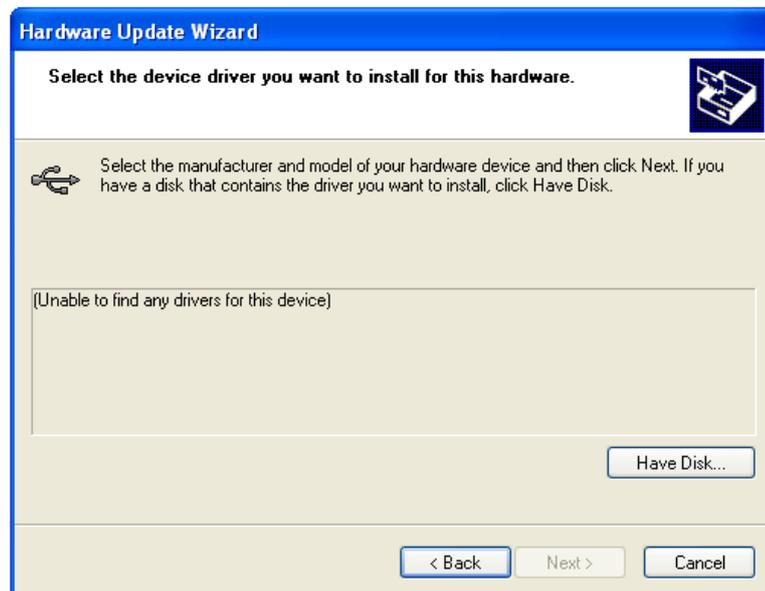

Fig. 48
- Choose “Have Disk” (*Fig. 48*). Browse to file “ftd2xx.inf”, which is in “Driver” folder on the CD supplied with the laser.